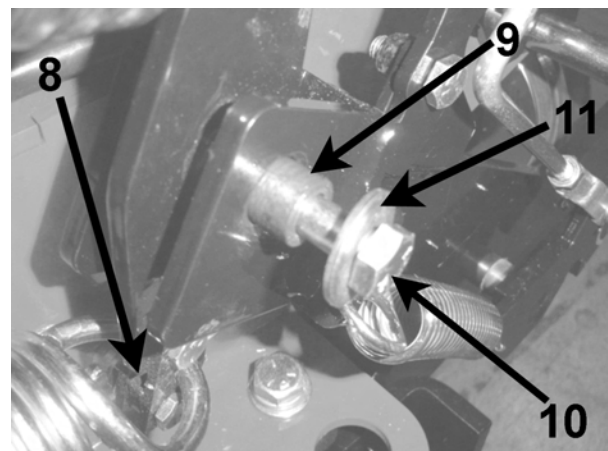

Figure 3
3. Install Spring Mount Assembly **8** to the front lift on the tractor by sliding the Spring Pivot Mounting Tube **9**, through the front lift and the spring mount assembly (**Figure 3**). Secure in place with one bolt **10**, two washers **11** (one on each side), and one nut **19**. (**Figure 3 & 4**)